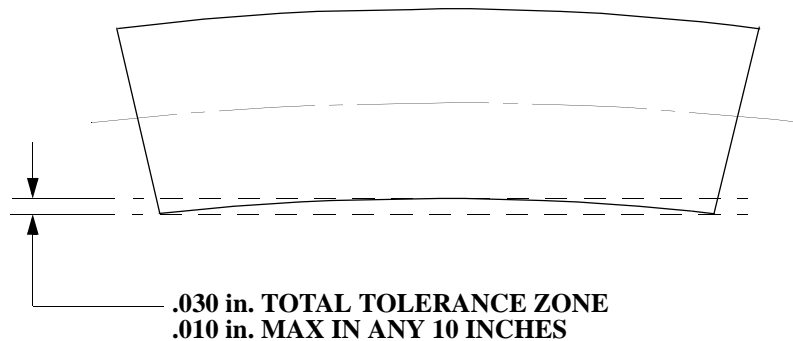

FIGURE 2: STRAIGHTNESS TOLERANCE
- 2.2.2. The feature must be within the specified tolerance of size and any longitudinal element of its surface must lie between two parallel lines 0.030 inches apart. Ref. Figure 2